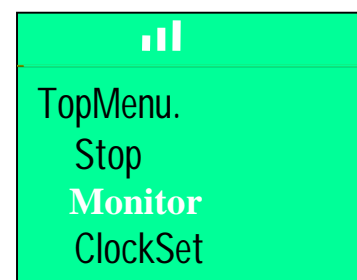

Fig. 2.15
-Exit (figure 2.15) : Quit the **Edit** mode to return to the main menu.